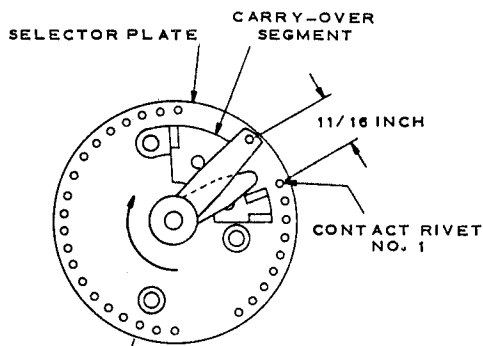

Figure 22. Wiper Arm Radial Adjustment.
2. Set the contact arm on the shaft so that center of outermost contact of the arm is approximately $11/16$ " away from the center of the first contact on selector plate, see Figure 22.
* Contacts "WD", "WF", "WG", and "WK" close before innermost contact of wiper arm leaves carryover segment on selector plate assembly. (Figure 22)
† Contacts "WD" remain closed until after innermost contact of wiper arm again reaches carryover segment on selector plate assembly. (Figure 22)